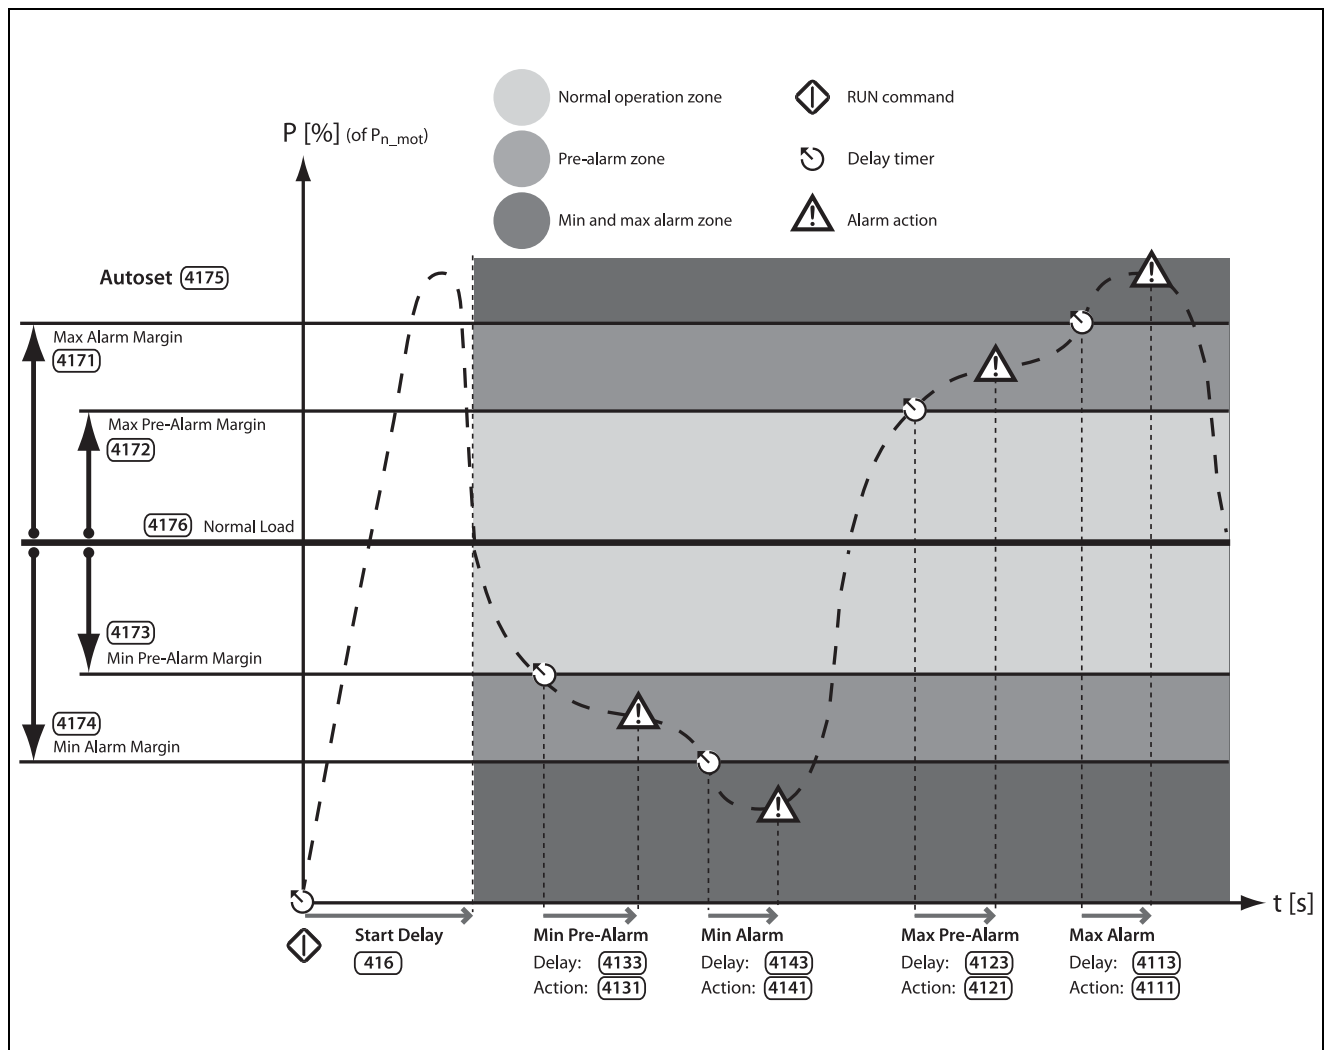

Fig. 41 Autoset load monitor alarm margins.
2. “Autoset” configuration, for which the alarm levels are automatically set, based on “Normal Load” \pm four “Alarm Margins” (Fig. 41).
See Fig. 41. The quickest way to adapt the monitor to different load situations is to use the “Autoset” function, which automatically applies four “Alarm Margins” to a registered “Normal Load” level whilst the motor is running. The “Alarm Margins” are set as a percentage added to or subtracted from the “Normal Load”, which is the shaft power during normal operation conditions. See calculations in Table 28, page 101. The “Normal Load” is expressed as a percentage of the nominal motor power (i.e. 100% normal load equals the motor power set in menu [223]).